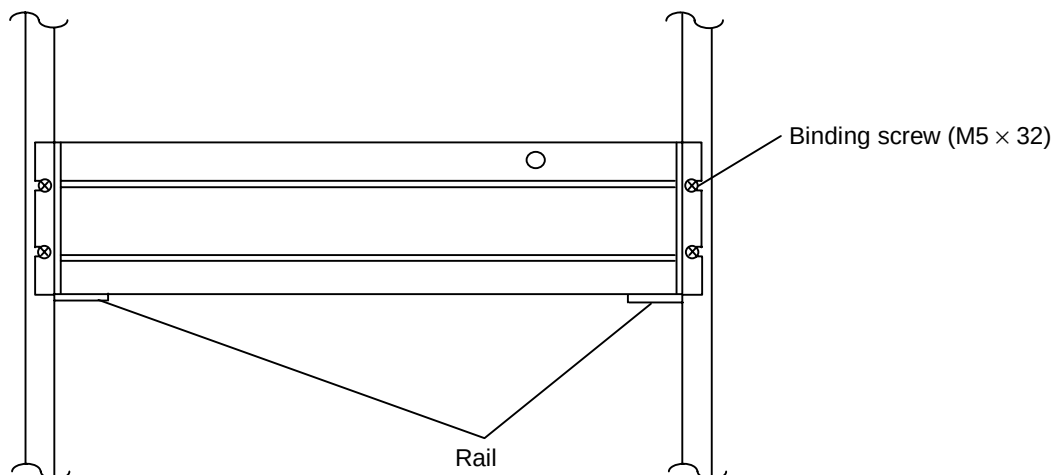

Figure 2.4.6 Securing the Front Side of the Subsystem
2.4.5 Securing the front side of the subsystem (See Figure 2.4.6.)